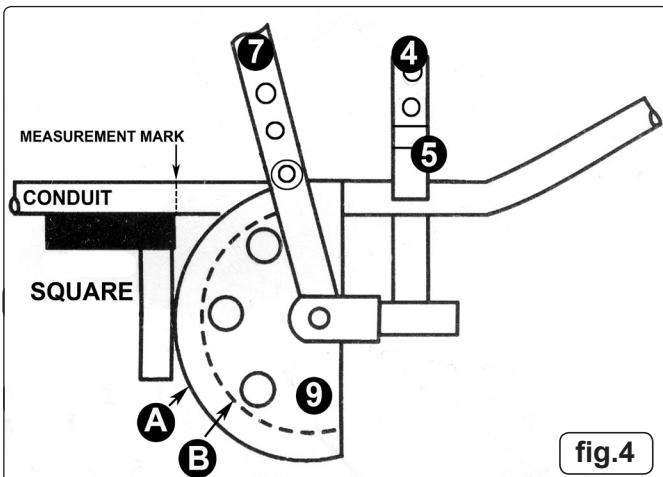

fig.4
- 5.2.3. Place a square or a rule against the mark on the conduit and slide the conduit along until the square touches the outside edge of the former (9) (fig.4.A). The conduit is now in the correct position for bending.
- 5.3.3. Place a square or a rule against the mark on the conduit and slide the conduit along until the square touches the inside edge of the former (9) (fig.4.B). The conduit is now in the correct position for bending.
- 5.4.1. If the required measurement is from the outside to the outside of the bends, mark off from the outside of the first bend and square up with the outside (fig.4.A) of the former (9). If the measurement is from the outside to the inside of the bends (centre to centre) square up with the inside of the former (fig.4.B).